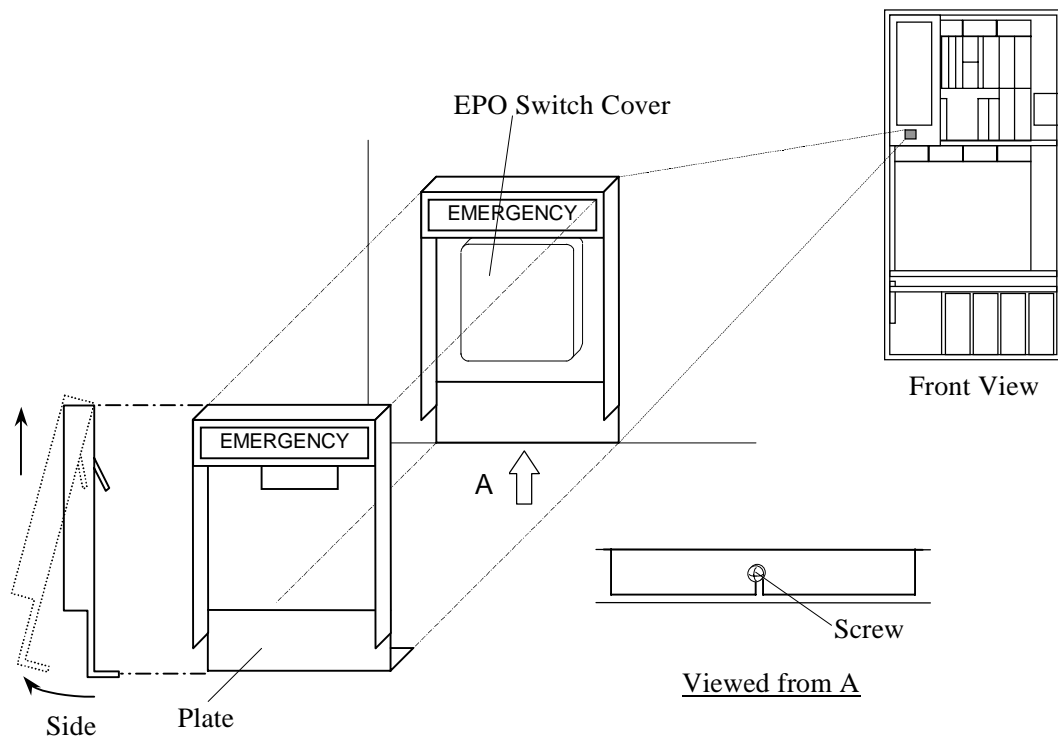

Fig. 4.6-1 Removal of Plate
- j. Attach the plate and fasten the screw. Refer to Fig. 4.6-1.